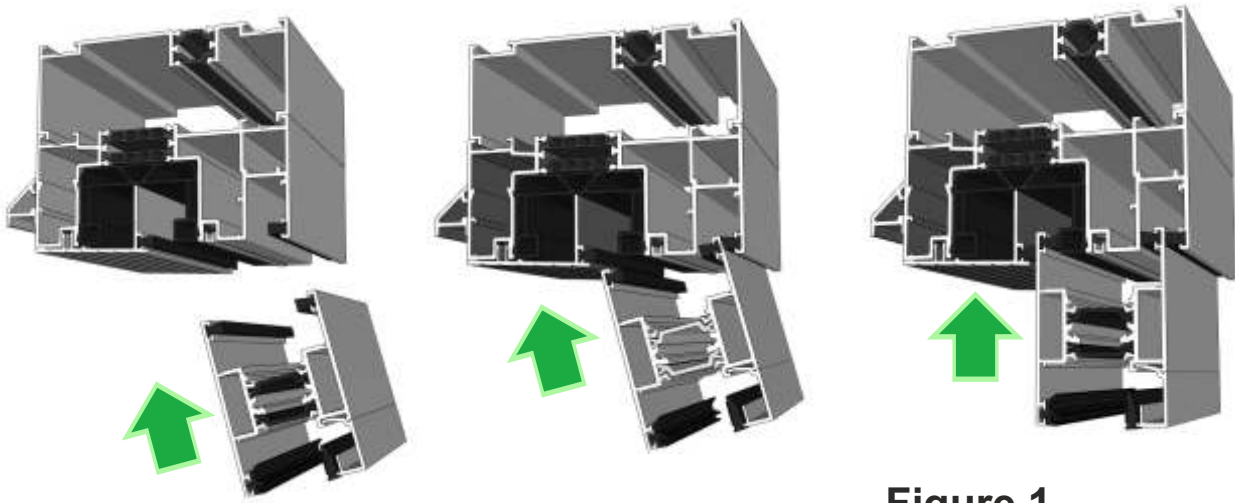

Figure 1
- Locate top of door sash to head of outerframe (figure 1).